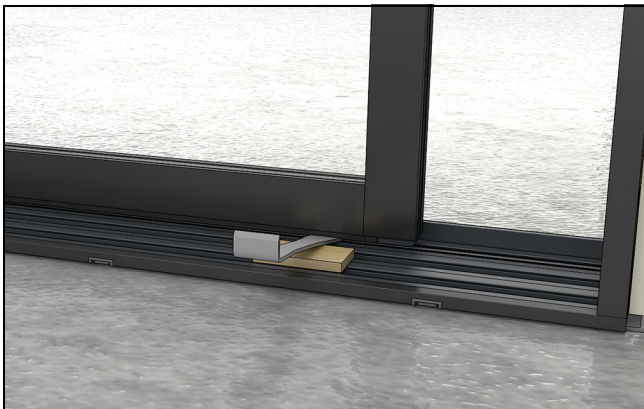

Figure 186
2. Place a block of wood on the sill and pry the panel up to relieve the weight off the rollers. See Figure 186.